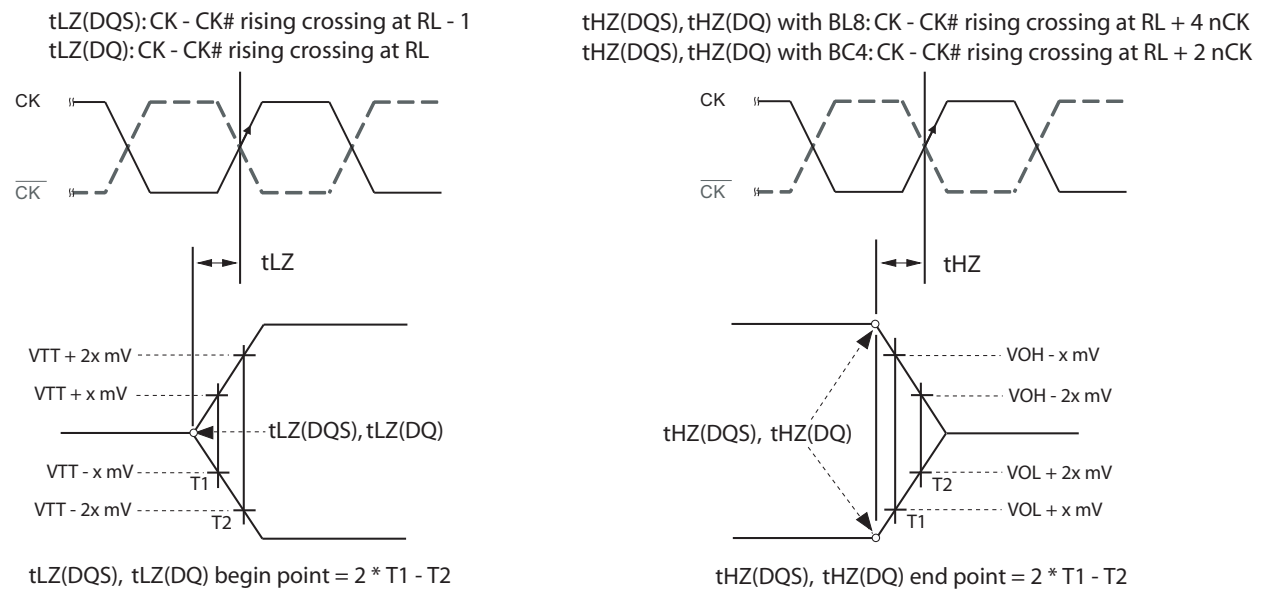

Figure 30 — tLZ and tHZ method for calculating transitions and endpoints
$t_{LZ}(DQS)$, $t_{HZ}(DQS)$ for preamble/postamble (see 4.13.2.3 and Figure 30)
4.13.2.3 tLZ(DQS), tLZ(DQ), tHZ(DQS), tHZ(DQ) Calculation
tHZ and tLZ transitions occur in the same time window as valid data transitions. These parameters are referenced to a specific voltage level that specifies when the device output is no longer driving tHZ(DQS) and tHZ(DQ), or begins driving tLZ(DQS), tLZ(DQ). Figure 30 shows a method to calculate the point when the device is no longer driving tHZ(DQS) and tHZ(DQ), or begins driving tLZ(DQS), tLZ(DQ), by measuring the signal at two different voltages. The actual voltage measurement points are not critical as long as the calculation is consistent. The parameters tLZ(DQS), tLZ(DQ), tHZ(DQS), and tHZ(DQ) are defined as singled ended.